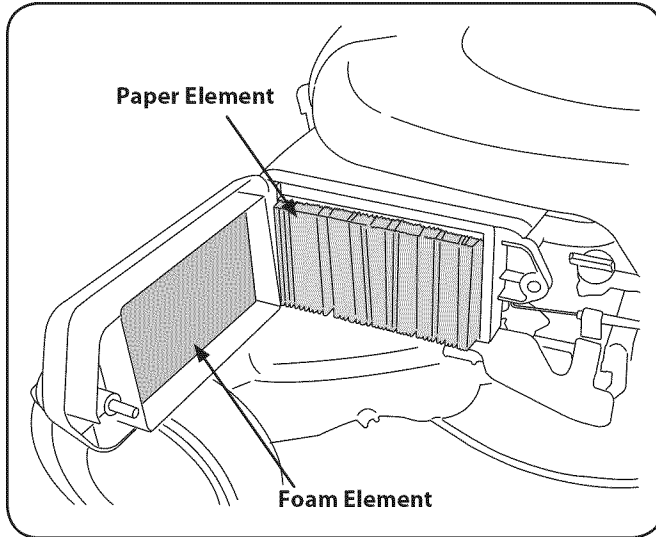

Figure 10-2
1. Remove the thumb screw and the air cleaner cover. Remove the elements and separate them. See Fig. 10-2. Replace paper element when dirty or damaged. Clean foam element or replace when damaged.